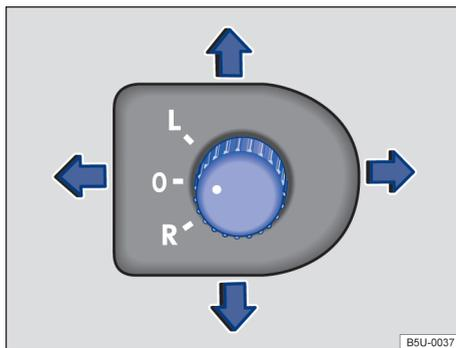

Fig. 72 On the driver door: setting knob for the electric exterior mirrors.
- Rotate the rotary knob in the driver door until reaching the desired icon → Fig. 72.